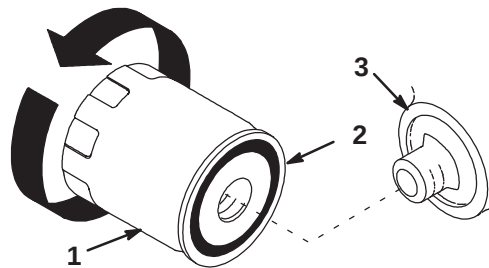

Figure 22
9. Change the oil filter, if necessary (Fig. 22).
2. Remove the old filter and wipe the filter adapter gasket surface (Fig. 22).
3. Apply a thin coat of clean oil to the rubber gasket on the replacement filter (Fig. 22).
4. Install the replacement oil filter to the filter adapter. Turn the oil filter clockwise until the rubber gasket contacts the filter adapter; then tighten the filter an additional 1/2 to 3/4 turn (Fig. 22).